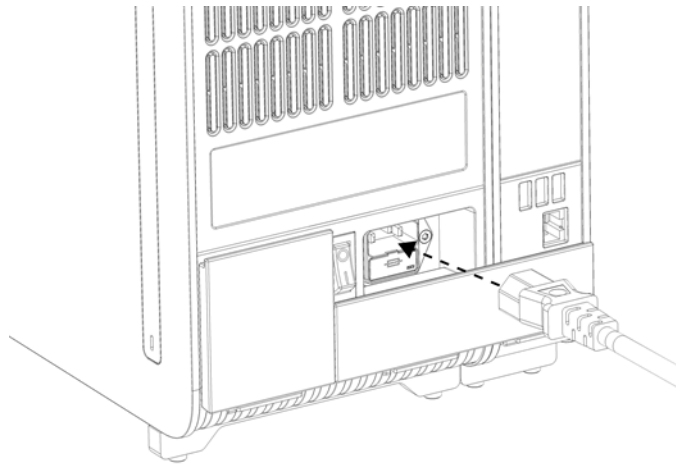

Figure 20. Connecting the power cord.
8. Connect the power cord that was delivered with the QIAstat-Dx Analyzer 2.0 to the back of the original Analytical Module (Figure 20).